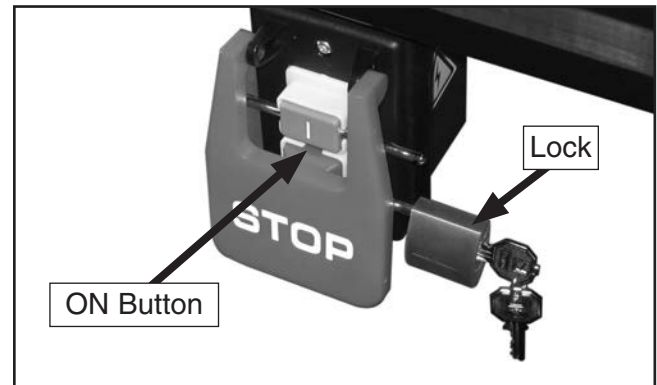

Figure 48. Switch disabling lock inserted into ON button.
8. Insert the switch disabling lock through the green ON button, as shown in **Figure 48**.